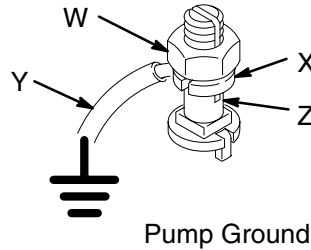

Fig. 2
1. **Ram Pumps:** check ground wire and clamp. See Fig. 2. To install, loosen grounding lug locknut (W) and washer (X). Insert one end of 1.5 mm² (12 ga) minimum ground wire (Y) into slot in lug (Z) and tighten locknut securely. Connect other end of wire to true earth ground.